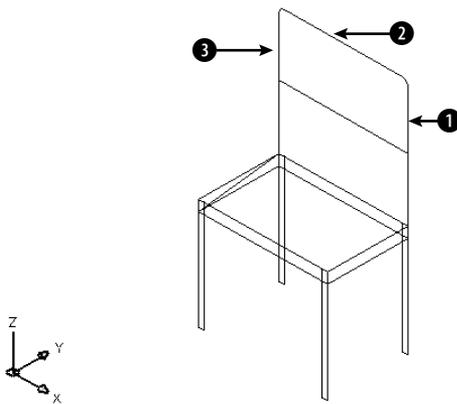

Figure 21-10: A wireframe model of a chair.
8. At the Select first object or [Polyline/Radius/Trim/multiple]: prompt, pick **1** in Figure 21-10. At the Select second object: prompt, pick **2**.
10. Save the drawing of the chair. It should look like Figure 21-10.
Wireframes have a number of limitations. In Figure 21-10, the chair you drew in the previous exercise, you can see the back leg through the seat of the chair. Also, creating the detail of a real chair would be tedious if you were to use individual lines or 3D polylines. Finally, wireframes don't have any surface or solid properties. You can't display them in any realistic fashion or calculate properties, such as area, mass, and so on.